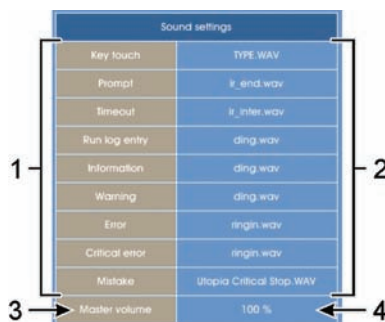

Figure 124: Sound settings with event name (1), sound value (2), master volume (3) and master volume level (4)
Use the "Sound Settings" area (see Figure 124) to change a sound for a particular event. First open the "Select sound file" dialog box by selecting the sound name cell (2) adjacent to the required event (1).
To change the sound volume, select the master volume level cell (see Figure 124) and enter the required value in the subsequent dialog box. Sound volume is also dependant on the actual sound file selected. If you find that a particular sound is not loud enough, try a different sound file.